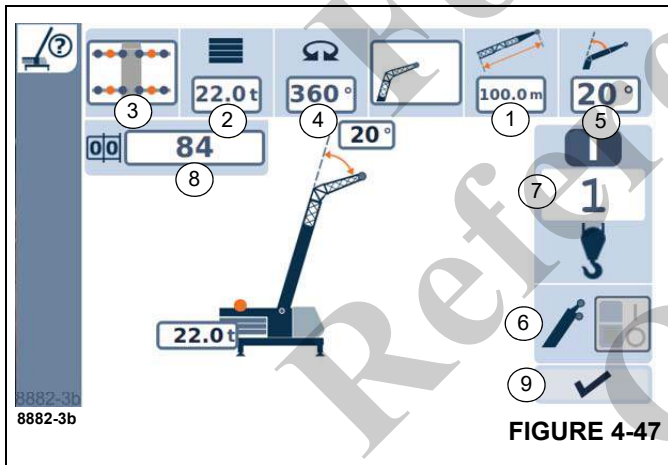

FIGURE 4-47
- Either enter the individual components (1), (Figure 4-47) to (6) one after the other.
- Or enter the RCL code (8) and the reeving (7).